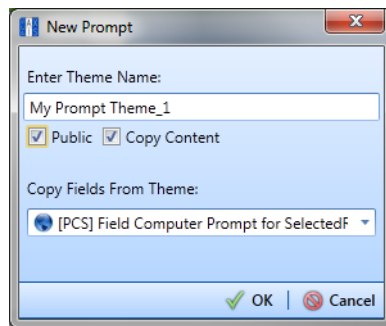

Figure 13-32. New Prompt
- 4 Click the  **Add** button to open the *New Prompt* dialog box (Figure 13-32).
- 4 Click the  **Add** button to open the *New Prompt* dialog box (Figure 13-32, page 627).